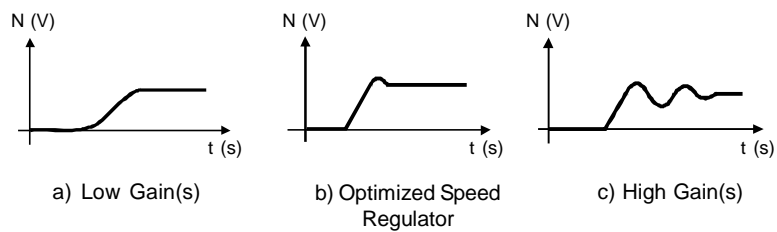

Figure 6.20 - Types of response for the speed regulator
- 6 - Check among the options in figure 6.20 which waveform best represents the signal measured with the oscilloscope.
Settings of P161 and P162 as a function of the type of response presented in figure 6.20: